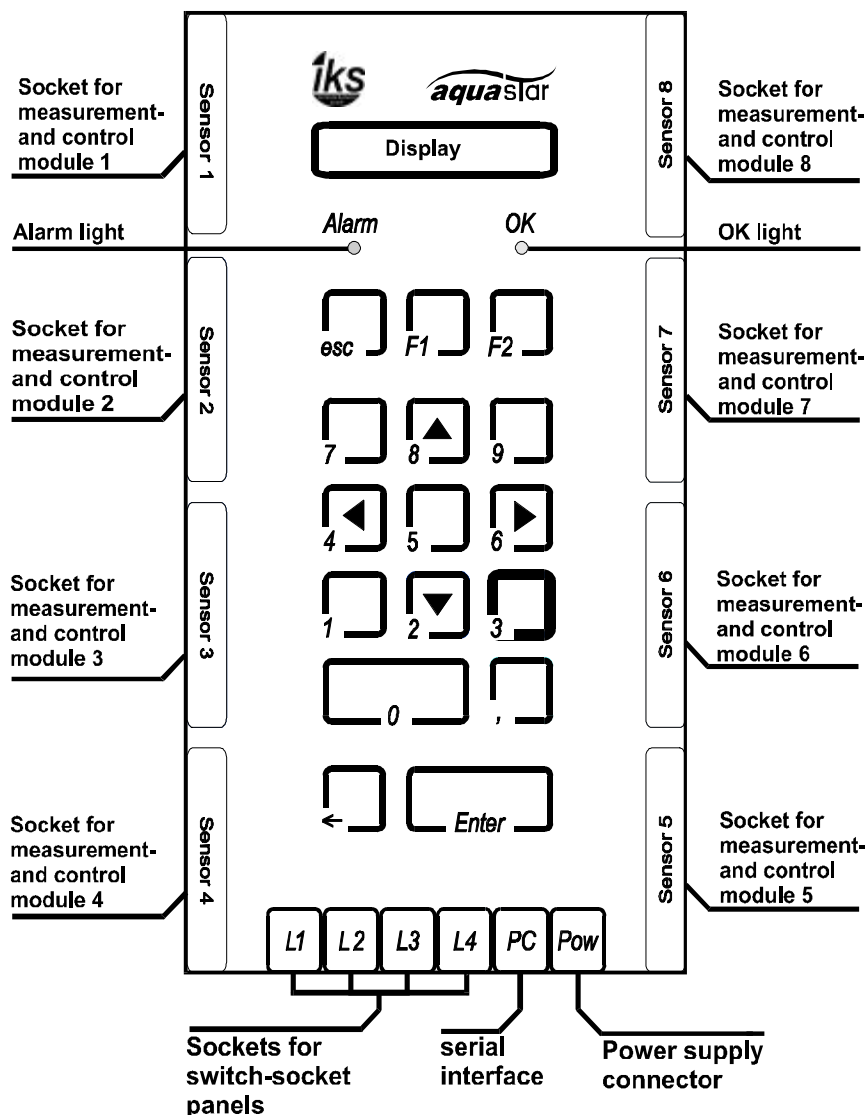
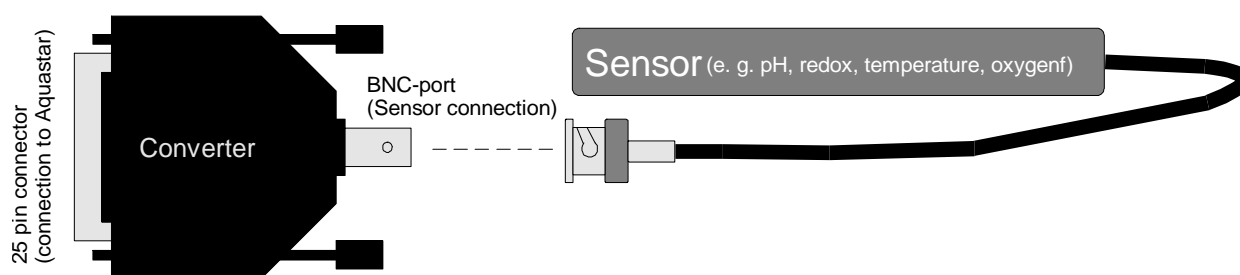

Fig. 1
Fig. 3: Measurement- and control module
With the help of a picture (Fig.1), **Section 3** introduces the *iks aquastar* and explains what's included in the package. Once you've read this, you will know where to connect the sensor modules, the switch-socket panel, the power supply and the PC.
3.1 Operating elements (Fig. 1)
- a measurement converter (see Fig. 3)
- a measurement converter (Fig. 3)
As you can see from the diagram (Fig. 1) in Section 3, the *iks aquastar* has eight sockets for measurement- and control modules. It's up to you which module you connect to which socket. Please observe, however, that you must, at all costs, **turn off the power supply** when connecting and disconnecting a module to avoid the possibility of causing damage. A measurement- and control module comprises a sensor (e.g. a temperature sensor, a pH electrode etc.) and a converter (Fig.3) contained within a black housing (SUB-D). This converter has on one side a BNC port for connecting the sensor and on the other, a 25-pin SUB-D port for connecting the *iks aquastar*. Level- and conductivity sensors are directly and securely connected to the 25-pin plug. Now you can connect **the modules (power supply off?)**. Their asymmetrical form ensures that the plugs are fitted correctly into the ports. Don't forget to connect the appropriate sensor to the converter. After you have connected a module we advise you to tighten the two securing screws (on the black plug-housing) to prevent the module being inadvertently pulled out.
As shown in Fig. 1, you can connect up to four switch-socket panels to the *iks aquastar* on L1 to L4 (thereby giving you a total of 16 sockets that can be activated individually). These sockets are labelled L1 to L4. The sockets on L1 have been given the numbers 1 to 4, on L2 the numbers 5 to 8, on L3 the numbers 9 to 12 and finally L4 the numbers 13 to 16. If you only have one socket panel in your possession then we recommend that you connect it to the socket L1. Of course, you can connect it to L2, L3 or L4 if you wish but then please note that the numbers assigned to the sockets change accordingly (see above).